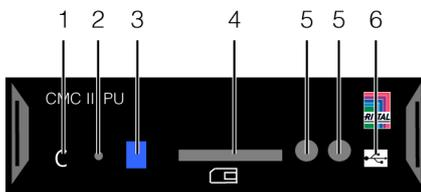

Fig. 92: Liquid Cooling Package control unit (CMC III PU) – front
In order to switch the device to normal operation (control operation), briefly press the "C" button (fig. 92, item 1) once.